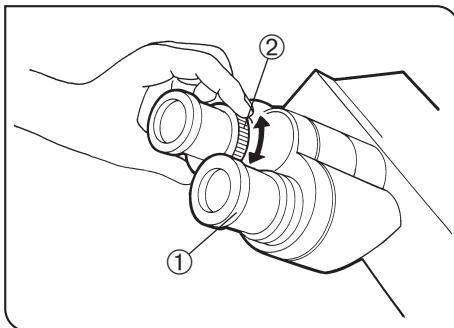

Fig. 42
## 6 Using Eyepieces Incorporating a Micrometer (Fig. 42)
1. Looking into the right eyepiece with your right eye, turn the top of the eyepiece ① so that the micrometer in the field of view looks sharpest (Fig. 42).
3. Looking into the left eyepiece with your left eye, rotate the diopter adjustment ring ② to bring the specimen into focus.